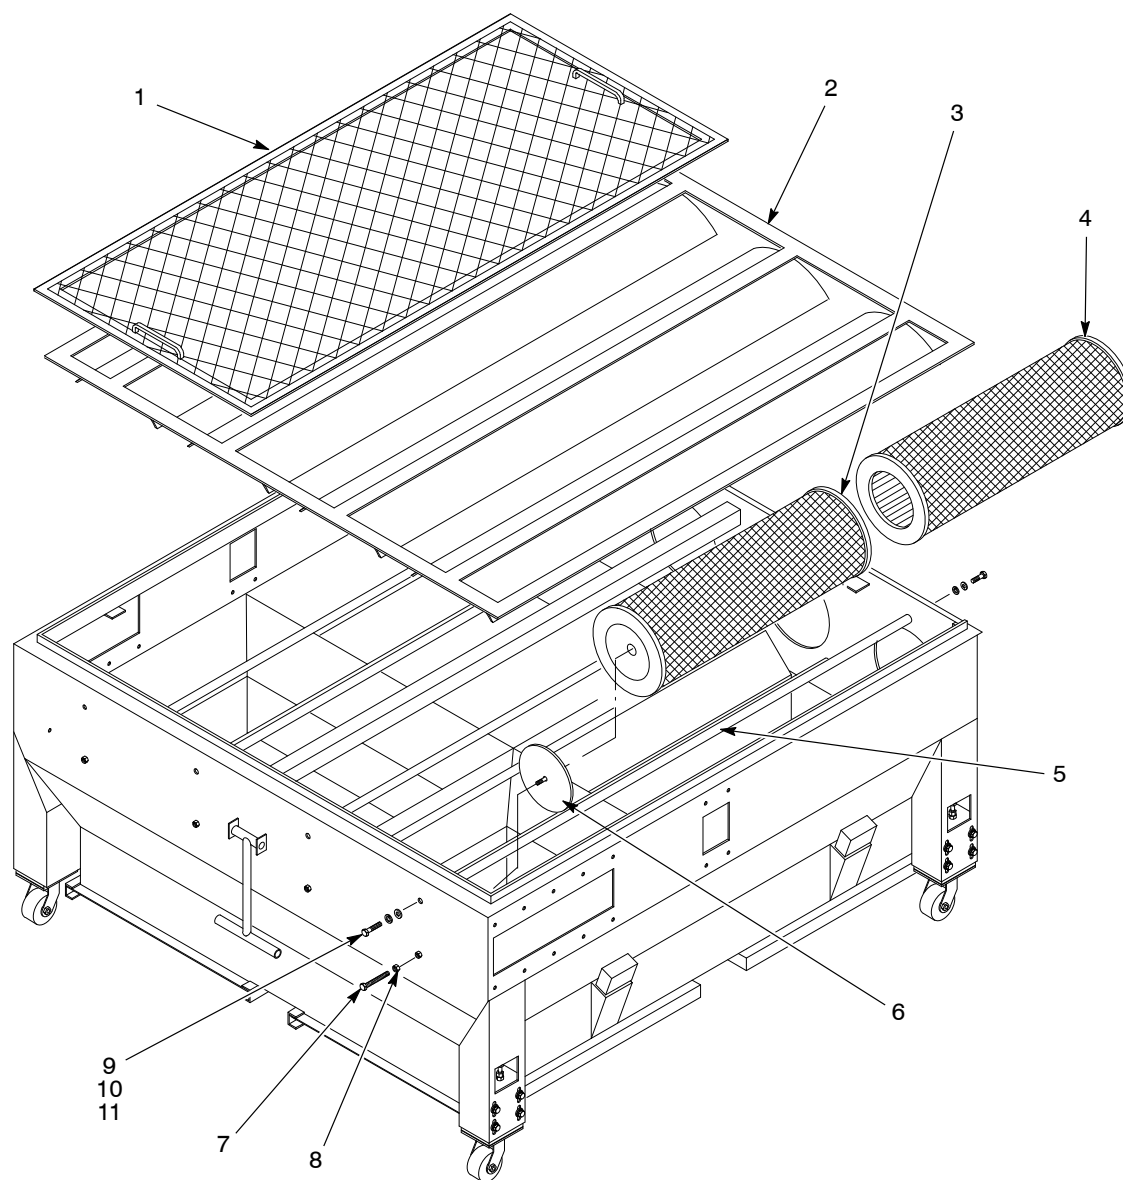

Figure 7-2 Cartridge Filter Replacement (Horizon 400 Shown)
2. See Figure 7-2. Remove the grates (1) and baffle (2).
3. Loosen the jam nuts (8) on the torque screws (7). Turn the screws counterclockwise until the push plates (6) retract against the side of the color module.
4. Remove the screws and washers (9, 10, 11) securing the tension rods (5) to the color module. Save them for reuse.
1. See Figure 7-2. Thoroughly clean the inside back wall of the color module around the cartridge filter openings, to provide a clean surface for the filter gaskets.
2. Clean the push plates (6).
3. Place the closed-end cartridge filters (3) on the support rods, with the closed end toward the push plates. Push the filters against the push plates.
4. Place the open-ended cartridge filters (4) on the support rods with the gaskets on the filters facing the round outlet holes in the color module.
5. Install the tension rods (5) with the screws and washers (9, 10, 11).